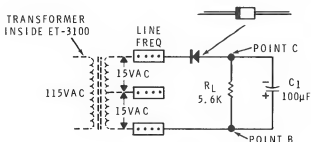

Figure 4-70
17. Turn the ET-3100 off. Reverse the diode and the capacitor as shown in Figure 4-70. The voltage at point C is now _____ with respect to point B. positive/negative